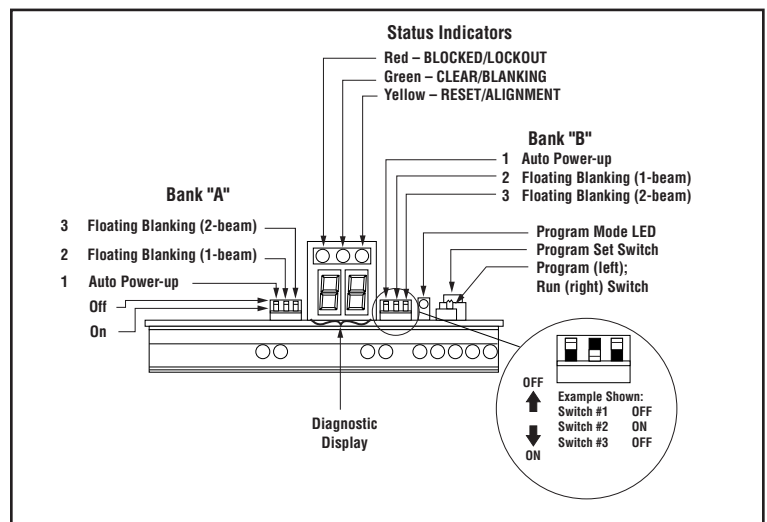

Figure 20. Controller board configuration DIP switches
The MICRO-SCREEN control module should be configured before initial checkout and use. Control module configuration is done at the two banks of DIP switches located along the edge of the controller board (see Figure 20). The controller will automatically sense the length of the emitter and receiver, and set its response time accordingly.
Because it has redundant microprocessors, the controller module has two identical DIP switch banks (bank A and bank B) which must be set identically. Failure to set both banks identically will cause a lockout condition when power is applied to the control box. **Power to the MICRO-SCREEN System must always be OFF when changing DIP switch settings.** Changing DIP switch settings with power ON will cause a lockout condition. See the inset in Figure 20 for DIP switch ON and OFF positions.
Locate the floating blanking (FB) configuration switches in banks A and B (see Figure 20). Set the switches identically at both banks. Be aware of the differences in minimum object sensitivity, penetration factor, and required light screen separation distance between the settings (see sections 2.1 and 3.2.1). Floating blanking causes the MICRO-SCREEN System to ignore objects of up to the sizes listed in the table below.
Locate the Auto Power-up (AP) configuration DIP switches (see Figure 20) in banks A and B. If Auto Power-up is ON when power is applied to the MICRO-SCREEN System, the controller will automatically reset after conducting and passing an internal system checkout. If the switches are OFF, this initial reset is manual (via a Key Reset switch). Regardless of the setting of the Auto Power-up switches, a Key Reset is always necessary to recover from an internal lockout condition. To select Auto Power-up, remove the protective coating on both switches and push them to the ON position. The switches must be set identically at both banks A and B.